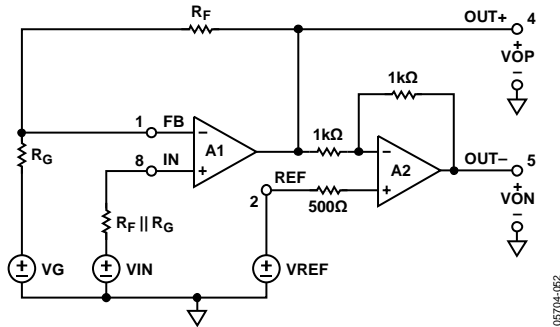

Figure 47. Basic Connections (Power Supplies Not Shown)
The ADA4941-1 is a low power, single-ended input, differential output amplifier optimized for driving high resolution ADCs. Figure 47 illustrates how the ADA4941-1 is typically connected. The amplifier is composed of an uncommitted amplifier, A1, driving a precision inverter, A2. The negative input of A1 is brought out to Pin 1 (FB), allowing for user-programmable gain. The inverting op amp, A2, provides accurate inversion of the output of A1, VOP, producing the output signal VON.
In Figure 47, RG and RF form the external gain-setting network. VG and VREF are externally applied voltages. VOP, cm is defined as the output common-mode voltage and VOP, dm is defined as the differential-mode output voltage. The following equations can be derived from Figure 47: